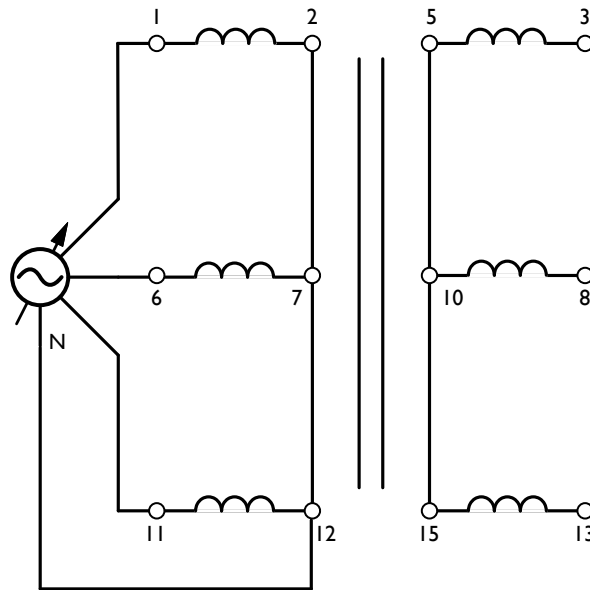

Figure 2.3: Three-Phase Transformer Connected in Wye-Wye
12. With the power off, connect all three transformers together in the three-phase **Y** - **Y** configuration shown in Figure 2.3.